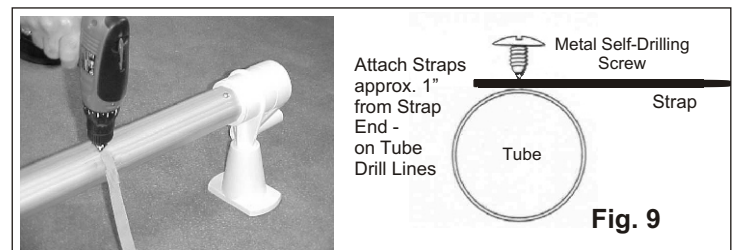

Fig. 9
- A. Mark each End Tube 6" (15 cm) in from the inside edge of pool top rail. Attach one Strap at each mark on a Drill Line (see Fig. 9). The remainder of the Straps will be spaced evenly - on Drill Lines - between the outside 2 Straps. Mark all strap locations before installing. Use all Straps provided. Note: Maximum distance between straps is 30"
- B. Attach Straps to Tubes at the marks with a Metal Screw directly through the strap material and approximately 1" back from the end of the strap (see Fig. 9). **DO NOT pre-drill holes or over-tighten screw.**